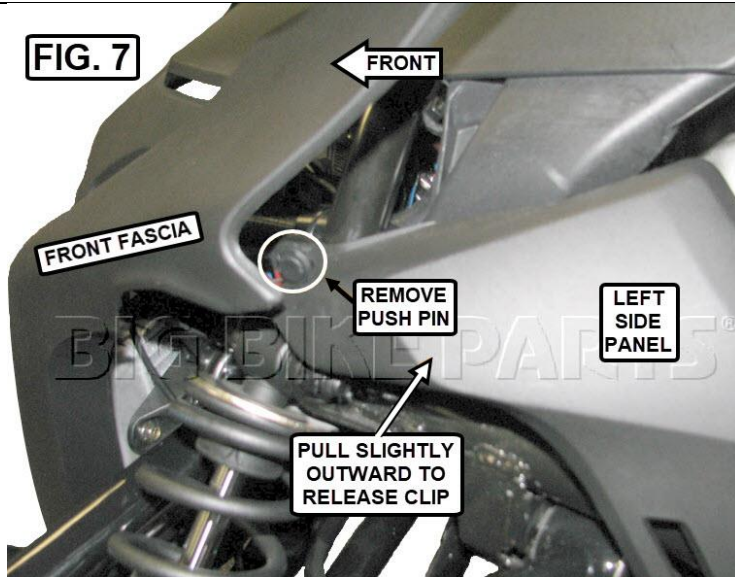
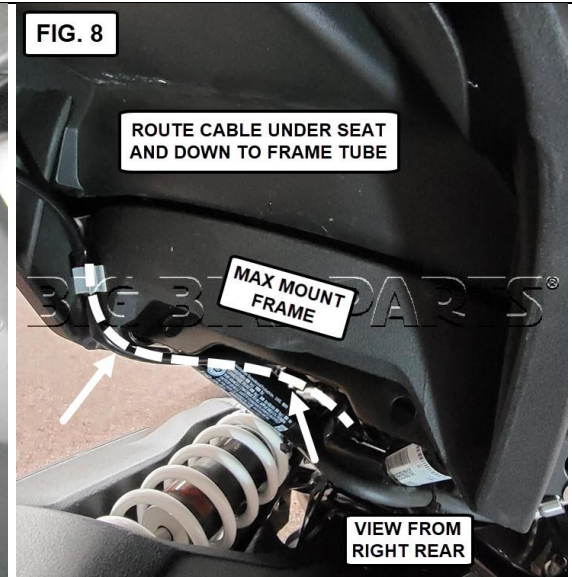
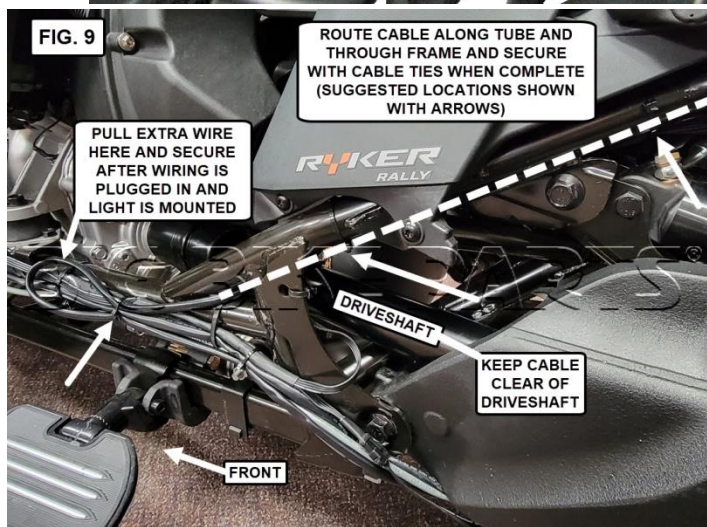

FIG. 8
FIG. 9
FIG. 10
11. Route connectors and harness down the frame tube under the seat and out through the side (FIG. 8 and FIG. 9). Run the harness with the other wires under the swing arm as shown in FIG. 10. **(This routing allows for the harness to remain protected and hidden after the installation.)**
16. Pull extra wire tight and secure as shown in FIG. 9.
23. Pull extra wire tight and secure as shown in FIG. 9.